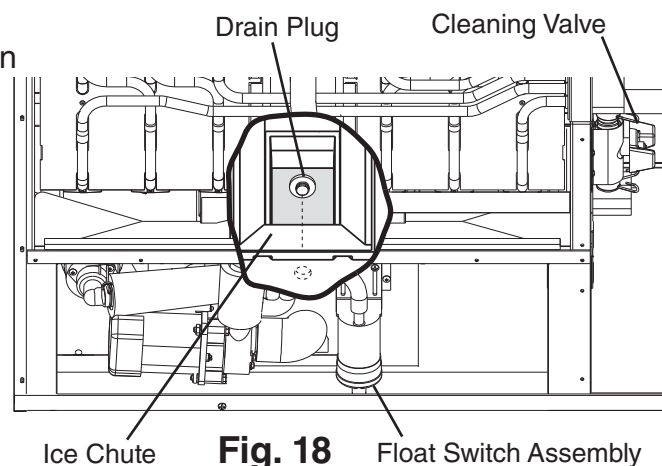

Fig. 18
- 12) Move the control switch to the "OFF" position, then remove the cube guide to access the drain plug. Remove the to drain the water tank. See Fig. 18.